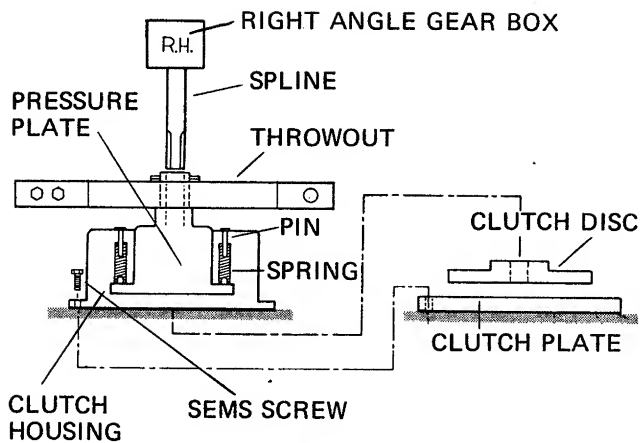

FIG. 20
16. REASSEMBLY. Place the large end of the pressure plate on the table with the small end up as shown. (see Fig. 20)